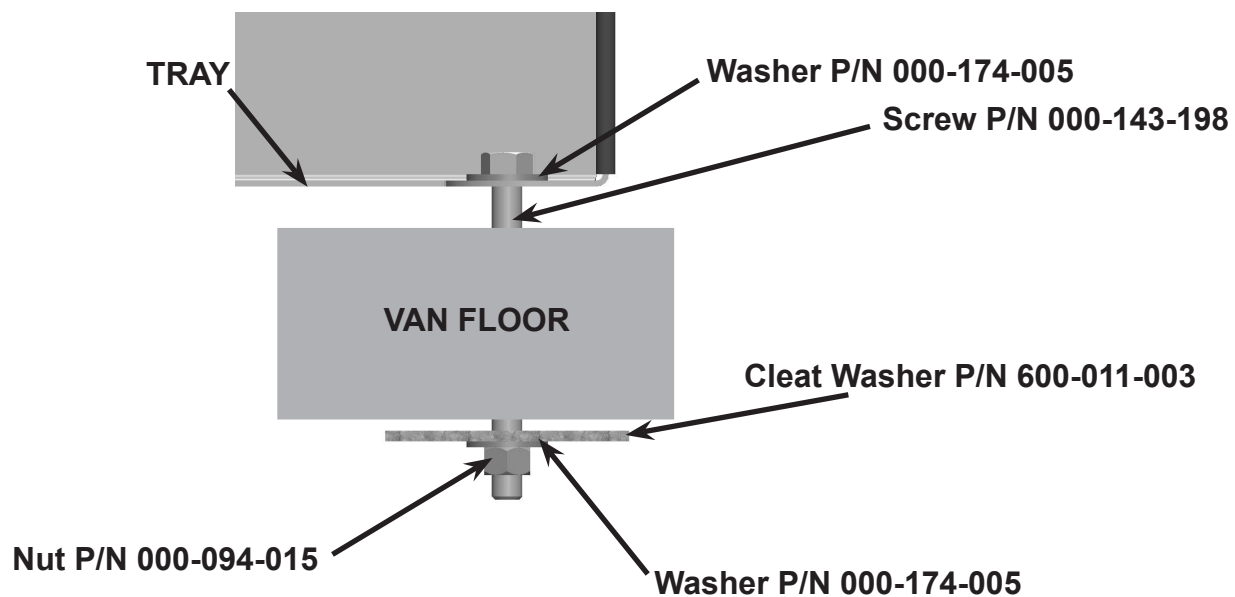

Figure 84. Bolt EWS Shelf to Floor with Hardware
4. Remove and retain the fastening hardware from the bottom tray of the EWS Shelf (see Figure 83 and Figure 84) and then remove the tray. The tray will be re-installed in step 7.
6. Bolt the EWS Shelf to the van floor with the provided hardware (see Figure 83 and Figure 84).
7. Re-attach the bottom tray to the EWS Shelf (see Figure 83 and Figure 84) with the fastening hardware which was removed in step 4.